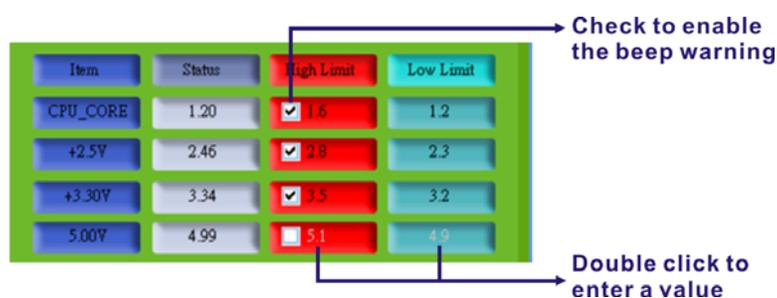

Figure 7-6: Voltage Page – High Limit and Low Limit
Step 1: Double click a high limit value or a low limit value to enter the new value (Figure 7-6).
Step 2: Check the high or low limit value to have the system use the beep warning when the specified system voltage is greater or smaller than the high limit or low limit (Figure 7-6). (Make sure to enable beep/audio alarm on the Load/Save Page. Refer to **Section 7.8**)